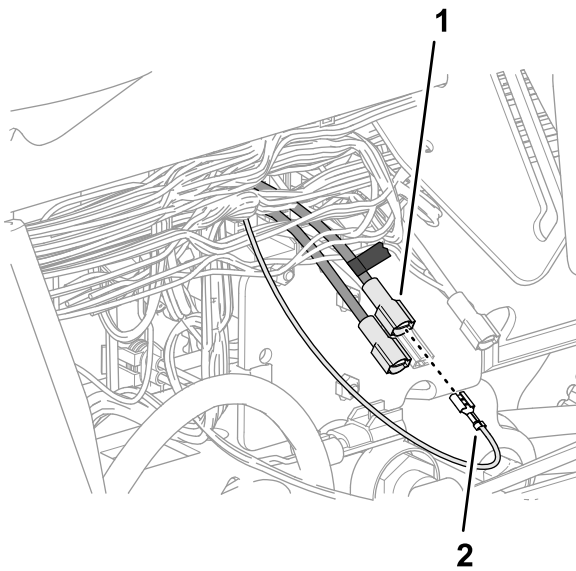

Figure 236
5. Connect the blade connector that you marked in step 4 into the socket connector at the end of the pink wire 51 mm (2 inches) of the kit sprayer harness (Figure 236).